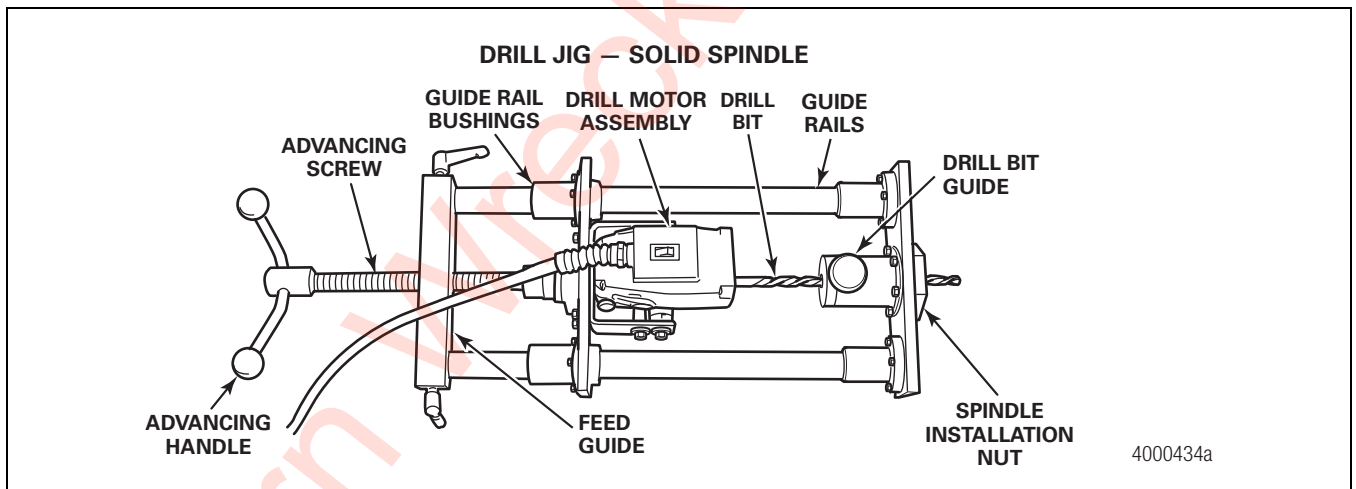

Figure 2.29
5. Install the 12 x 7/16-inch diameter drill bit into the drill. Figure 2.29.